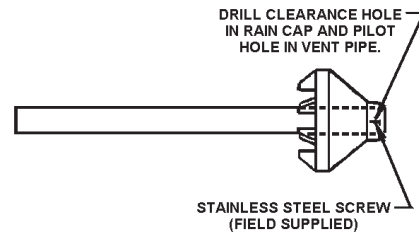

FIGURE 22.
- Cement rain cap to smaller diameter kit pipe, see Figure 22.
**NOTE: Instead of cementing the smaller pipe to the rain cap, a field-supplied stainless steel screw may be used to secure the 2 components together when field disassembly is desired for cleaning, see Figure 22.**
- Cement the rain cap to the smaller diameter kit pipe, see Figure 22.